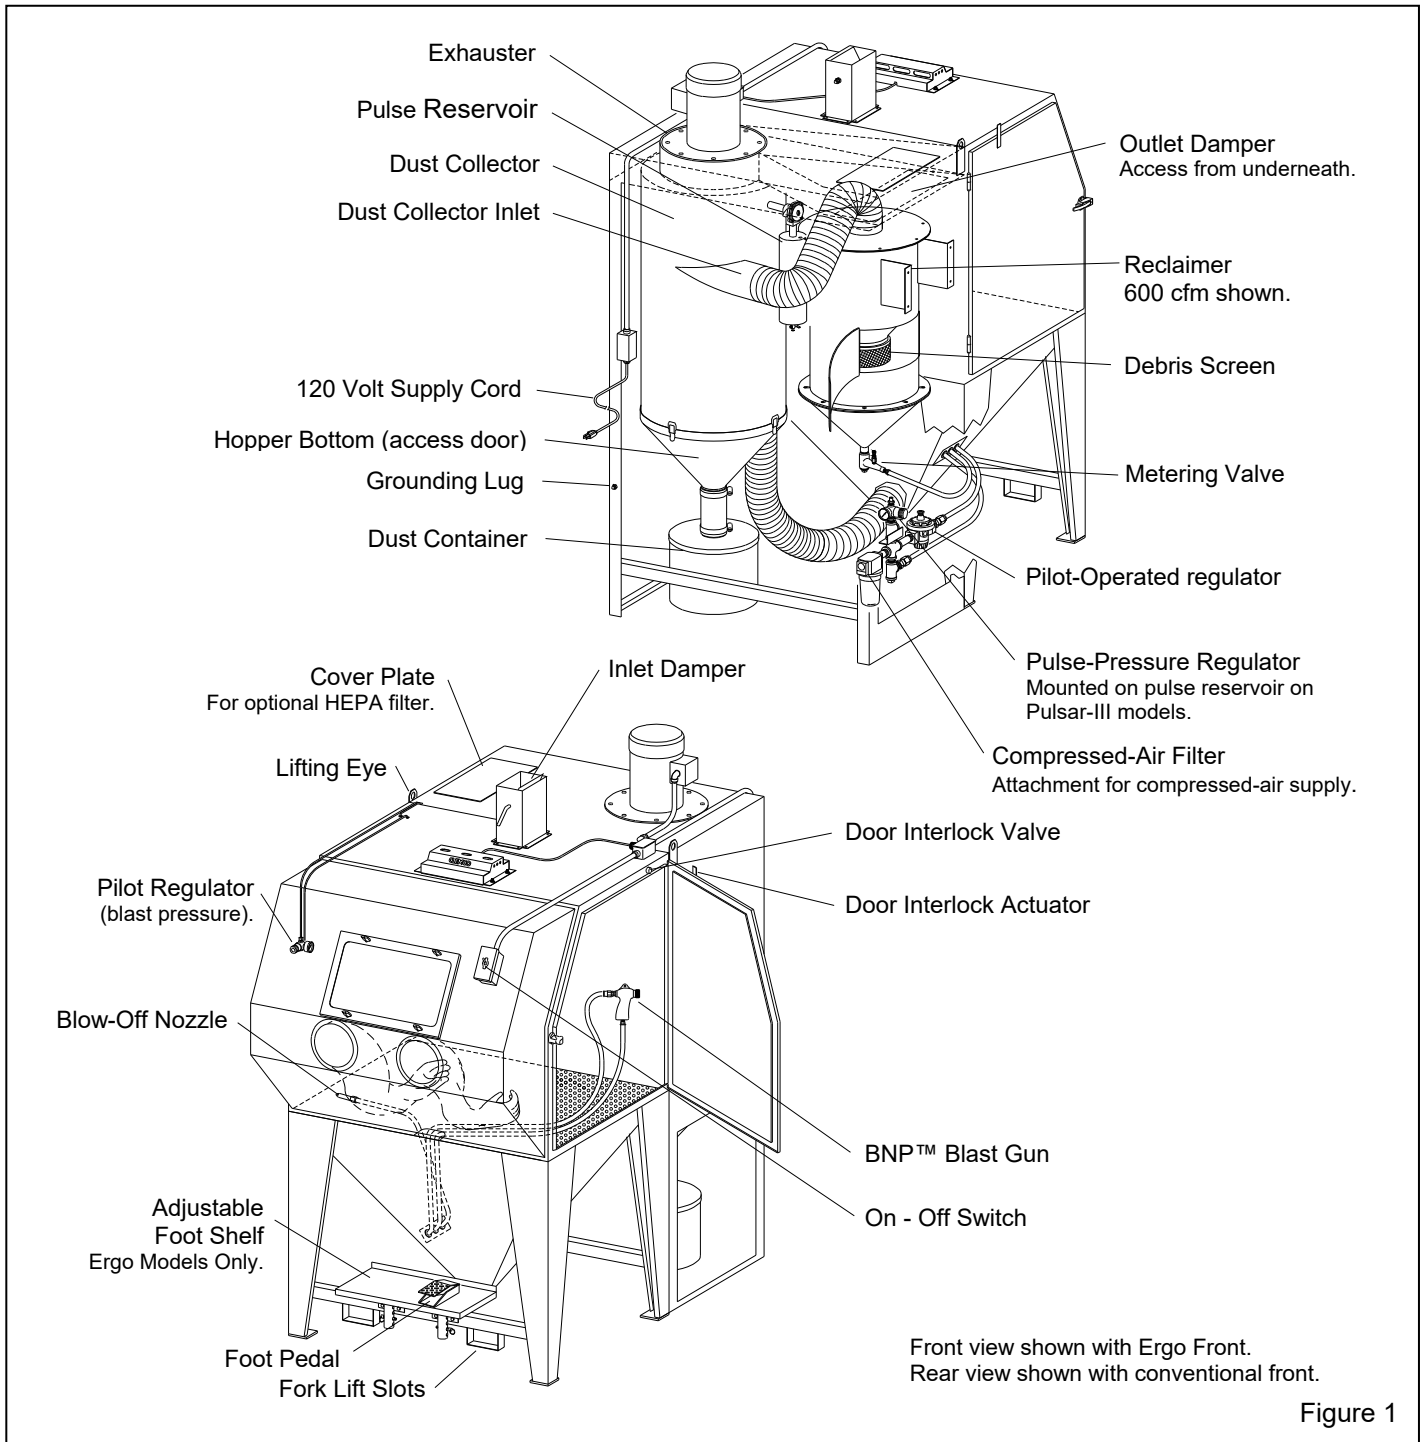

Figure 1
**1.4.1** Refer to Figure 1 for arrangement of components. The Pulsar cabinet encloses the blasting environment to provide efficient blasting while maintaining a clean surrounding work area. Production rates are influenced by size of air jet and nozzle, compressor output, working pressure, type and size of media, and angle and distance of the nozzle from the blast surface. All Pulsar Suction Cabinets consist of two major components.